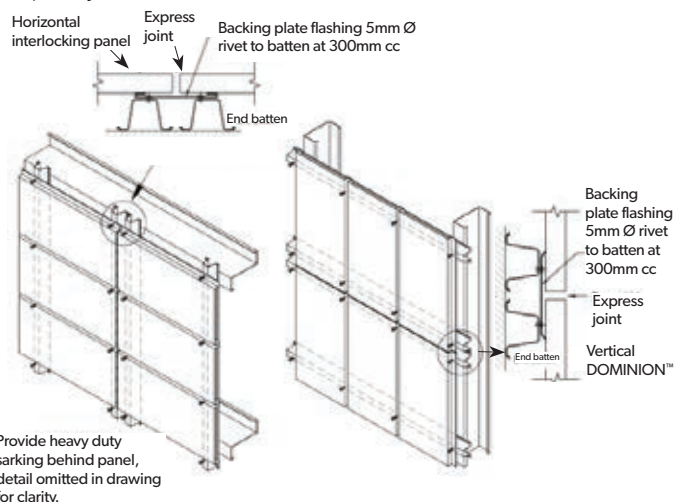

Figure 13.2.3:
3. The membrane must be hung and sealed at the top. It must be free of ripples and puckers with holding battens between the 40mm vertical battens securing it to the supporting member. Figure 13.2.3.